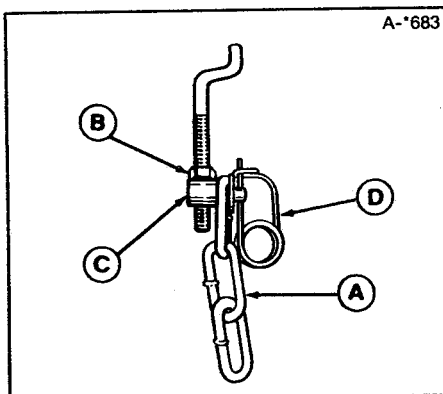

Figure 37. Lift Assembly - Large Lift Lever
4. To adjust, disconnect trunnion (C, figure 37) from chain by removing clip (D). Loosen the nut, and turn trunnion to raise or lower mower. Tighten nut when measurement is correct.